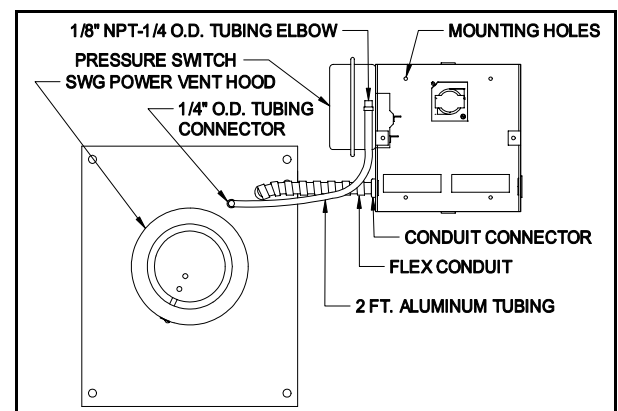

Figure 3
2. Fasten the flexible conduit from the SWG Venter into the conduit connector. Mount the CK-91F junction box or installer supplied junction box onto the wall or floor joist without straining the flexible conduit. Fasten the CK-91F junction box through the four dimpled locations on the base of the box. (See Figure 3)
1. Attach the 1/4 inch tubing connector to the pressure tube on the SWG Venter. (See Figure 3)